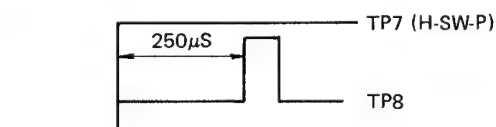

Figure 43
3. Selecting (+) sync slope with the oscilloscope, adjust R701 to meet the requirement given in Figure 43.